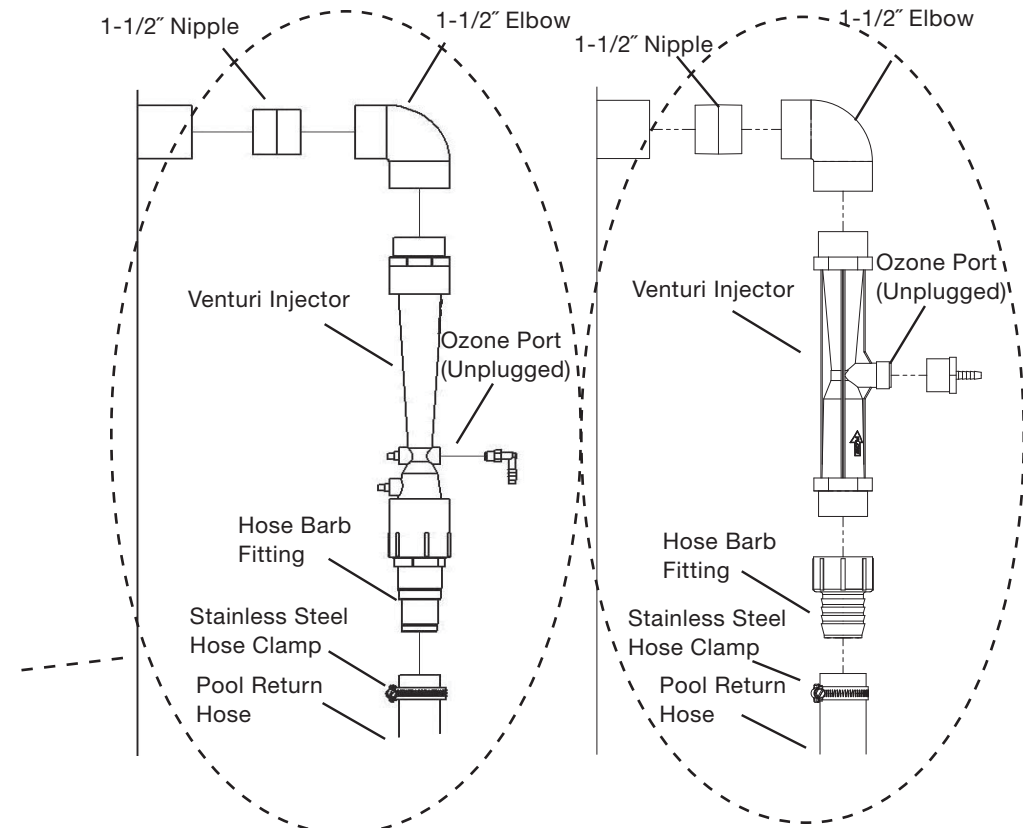

Figure 2a
6. Attach Hose Barb Fitting to Ozone Port on Injector (See Figure 2a or Figure 2b).